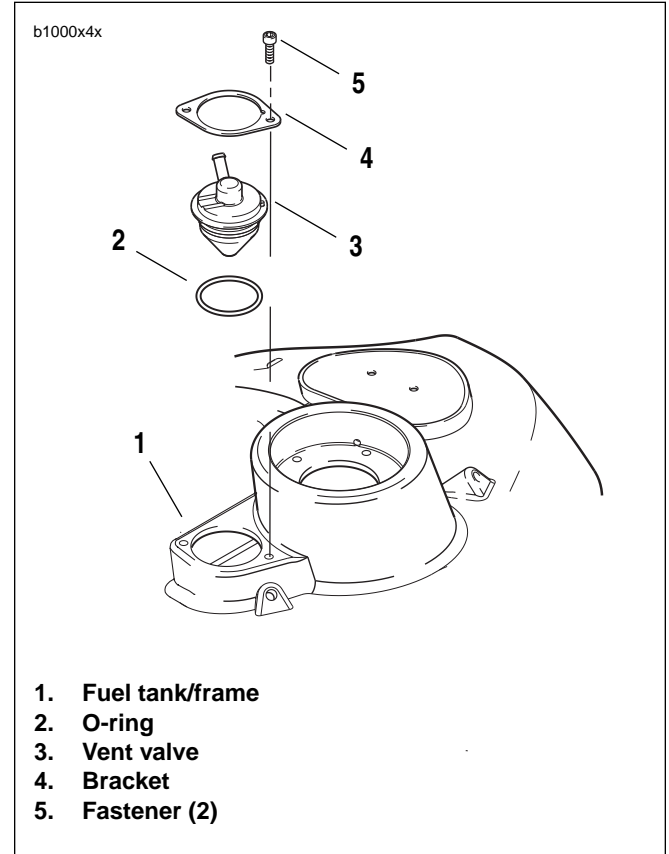

Figure 4-102. Fuel Tank Vent Valve
6. See Figure 4-102. Remove vent valve fasteners (5).
7. Remove bracket (4), vent valve (3) and o-ring (2) from fuel tank/frame (1).
1. See Figure 4-102. Install **new** vent valve o-ring (2).
2. Install vent valve (3) into fuel tank/frame. Vent valve nozzle should be at approximately the 7:00 position.
4. Loosely install vent valve fasteners (5).